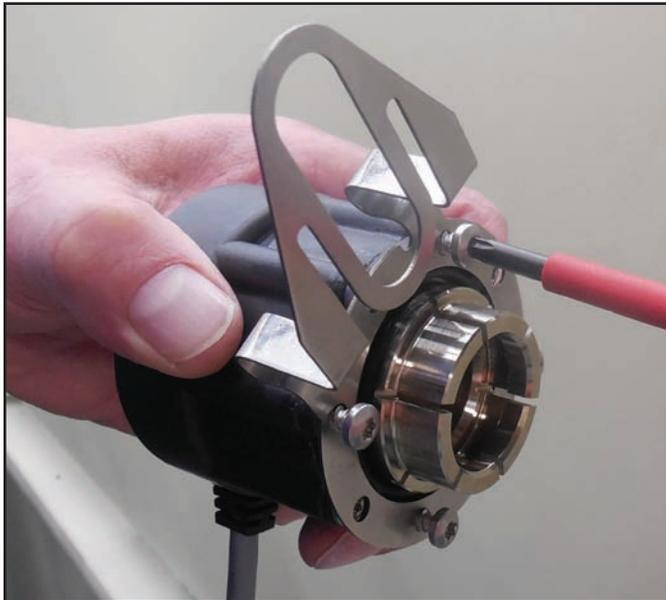

FIGURE 1
Remove split-clamp collar from sensor hub. Rotate the tether to the required orientation for the application and install on sensor body using (4) T20 Torx thread-forming screws provided. (See Figure 1) The tether can be installed in 45 degree increments so that the tether and cable exit can be conveniently located.